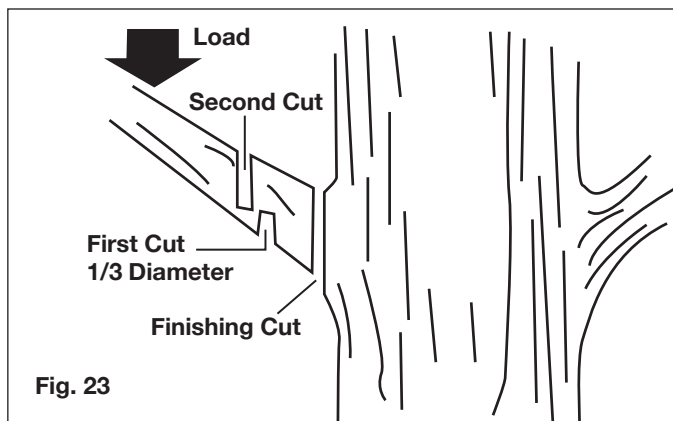

Fig. 23
- Under cut the branch 1/3 through for your first cut. Your second cut should over cut to drop the branch off (Fig. 23). Be prepared to balance the weight of the pole chain saw when the limb falls.
During normal saw operation, the temperature of the chain will increase. The drive links of a correctly tensioned warm chain will hang approximately 0.050 in. (1.25 mm) out of the bar groove (Fig. 23). Be aware that a chain tensioned while warm, may be too tight upon cooling. Check the “cold tension” before next use. The chain must be re-tensioned whenever the flats on the drive links hang out of the bar groove (Fig. 24).